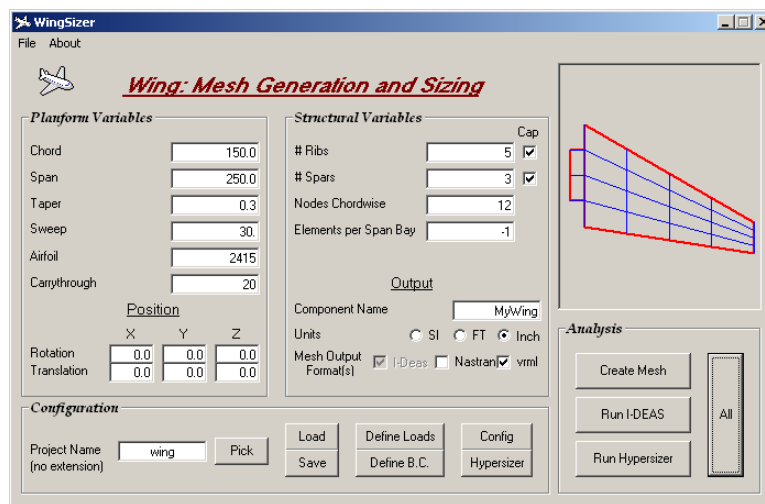

Figure 9. Visual Basic front end for wing sizing tool.
the specified wing, (2) call the finite element code I-DEAS to apply a specified pressure load and solve the finite element analysis (FEA) system, and (3) call HyperSizer [6] to compute the required weight of the wing, report back the weight, and report if any negative margins of safety were computed. Figure 9 shows the Visual Basic interface for the wing sizing tool.